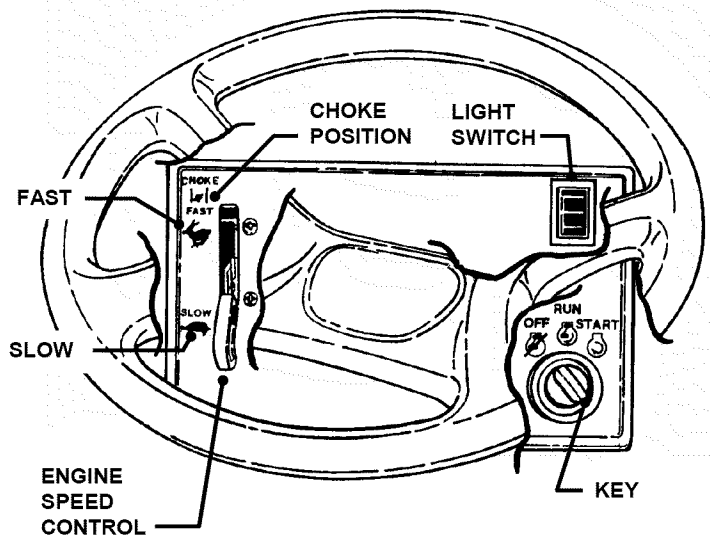

FIGURE 2.6
5. Choke engine for cold starting by moving engine speed control to "CHOKE" position. Little or no choking will be needed when restarting a warm engine. Insert key in switch. Turn key to "START" position to crank engine and hold until engine starts, then release key to "RUN" position. See Figure 2.6.
6. After engine starts, release key, move the engine speed control to "FAST" position and allow engine to warm up before proceeding. See Figure 2.6.